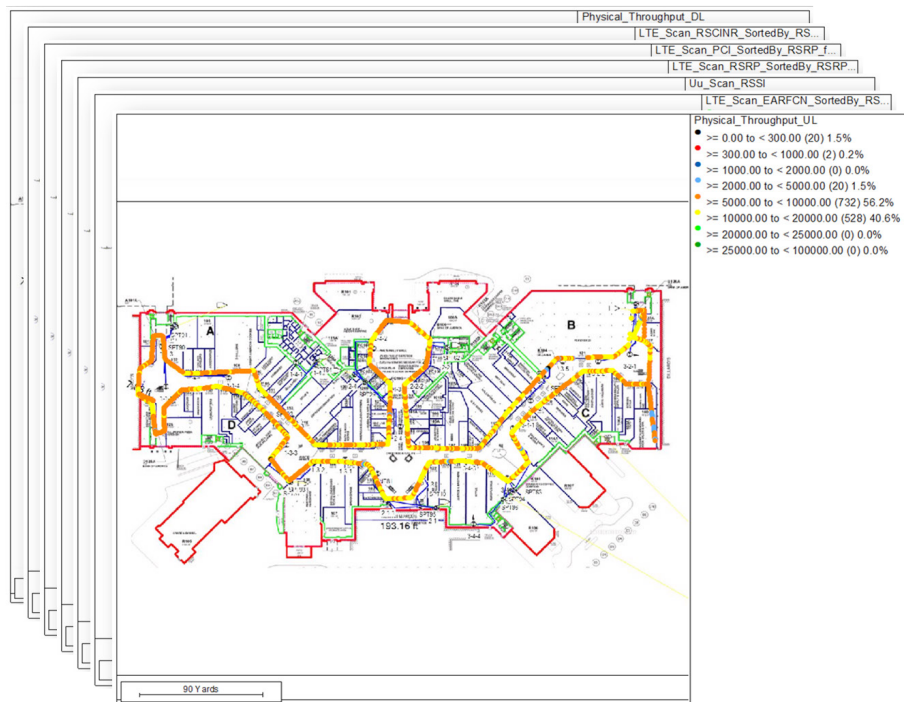

Figure 33. RF measurements
- If the measured signal strength (RSSI) is off by more than 5 dB from the calculated link budget or the antenna plumbing does not match the design, notify the on-site construction contractor to check for faulty, loose, or incorrect cable connections or a defective remote amplifier, see Figure 33.
- Record and present the following data for each zone and area, see Figure 33 for examples of RF measurements: